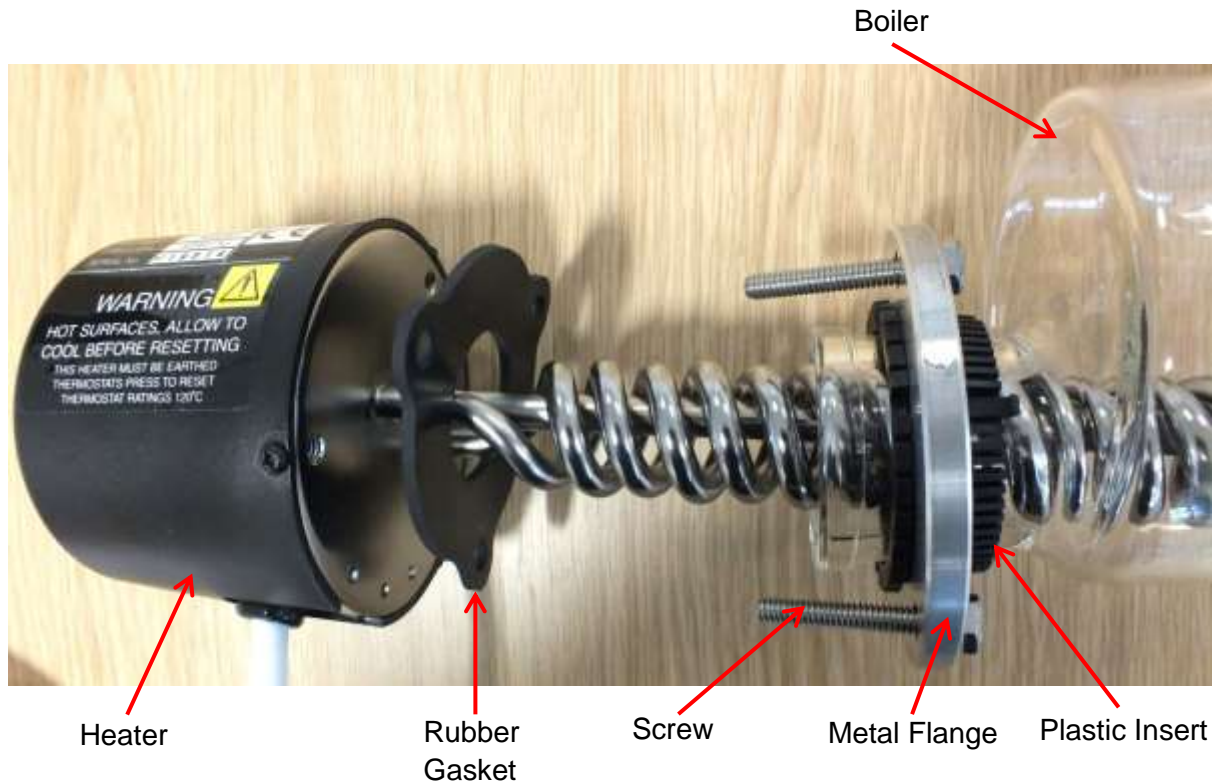

Fig. 2
3. Take the boiler (W4000/B), the heater (700692(ES)) and the gasket kit (I/MERIT/GK) and assemble as shown in Fig. 2 and the following: